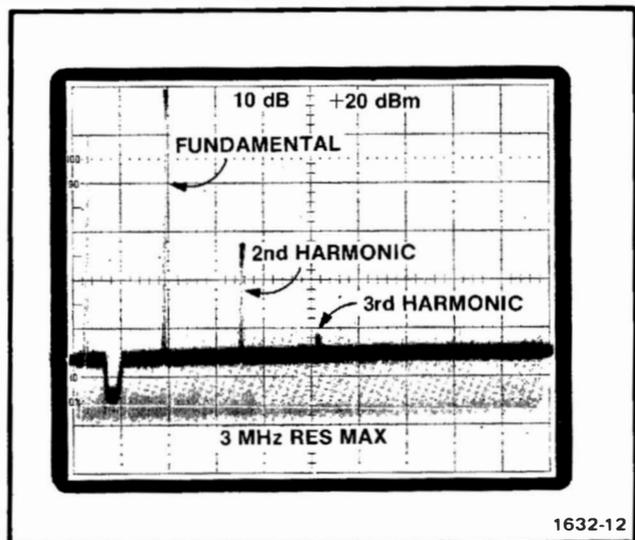

Fig. 2-4. Typical display of 245 MHz signal with fundamental properly positioned.
e. Position the fundamental vertically to the top graticule line with the spectrum analyzer position control. See Fig. 2-4 for reference.
f. Rotate the SG 504 COARSE control from 245 MHz to 550 MHz slowly and check that the vertical distance (suppression) between the top of the second harmonic and fundamental is at least 2.5 divisions (25 dB); the tops of the third and remaining harmonics are separated at least 4.0 divisions (40 dB). See Fig. 2-4 for reference.
h. Check—rotate the SG 504 COARSE control from 495 MHz to 1050 MHz and check that the vertical distance (suppression) between the top of the second harmonic and fundamental is at least 2.5 divisions (25 dB); the tops of the third and remaining harmonics are separated at least 4.0 divisions (40 dB). See Fig. 2-4 for reference.
p. Check—that the vertical distance (suppression) between the top of the second harmonic and fundamental is at least 2.5 divisions (25 dB); the tops of the third and remaining harmonics are separated at least 4.0 divisions (40 dB). See Fig. 2-4 for reference.